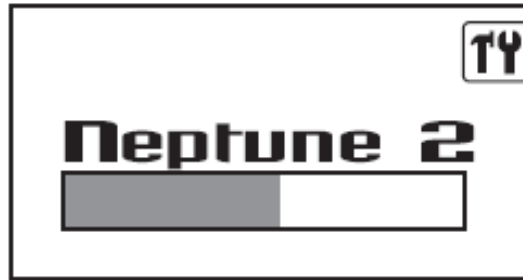

Figure 2: Neptune Splash Screen
- b. Once the Neptune 2 splash screen appears, continue to push the display button until the tools indicator in the upper right corner is highlighted solid white (see figure 2)